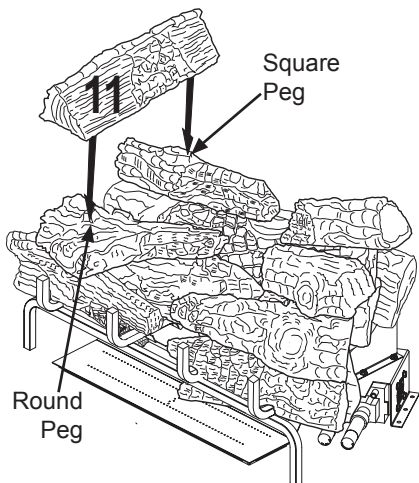

Figure 47 - Installing Log # 11
11. Place the left top log (#11) on top of the left back top log (#5) and left top forked log (#6) as shown in Figure 47, page 24. Match the round peg on the top of the left top forked log (#6) with the round hole on the bottom of the top left log (#11) and rectangular peg on the top of the left back top log (#5) with the rectangular hole on the bottom of the top left log (#11).